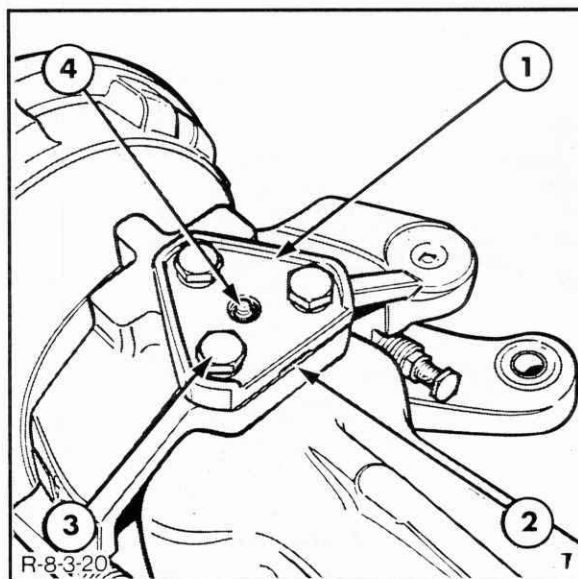

Figure 7-85
4. Remove the upper and lower swivel pin retaining bolts, Figure 7-85, and carefully lever the swivel pins and shims from the casing, noting the position of the shims. Identify the top pin and shims to aid reassembly.